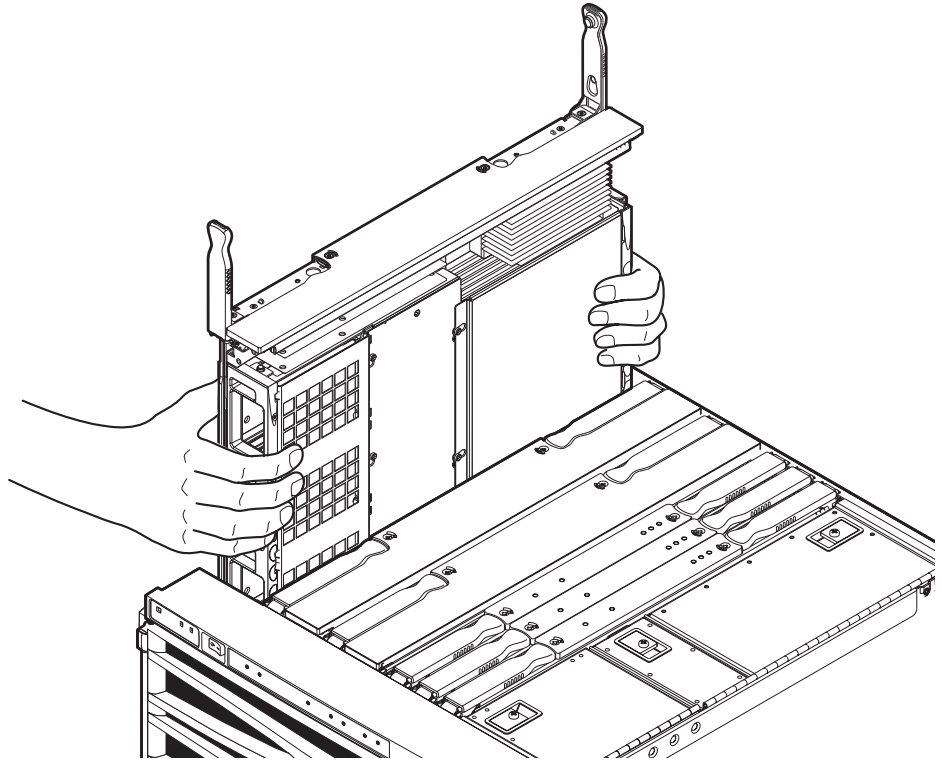

FIGURE 15-5 Raising a CPU/Memory Board From the System
11. Grasp the green panels and raise the CPU/Memory board out of the system (FIGURE 15-5).
4. Grasp the green side panels and gently insert the CPU/Memory board into the grooves until the antigravity clutch is engaged (FIGURE 15-5).